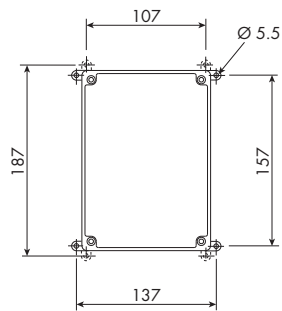

Figure 5.7: Dimensions and location of fixing holes - DX070
See figures 5.7 to 5.9 for the dimensions and mounting hole distances, etc., of the three DX enclosures. The recommended method of mounting—described here—uses the four wall-mounting lugs supplied with each enclosure. An alternative method of mounting is by direct attachment to the mounting surface through the corner holes.
- Each lug can be used in one of two positions as shown in figures 5.7 to 5.9.
- Appropriate fixing hole distances are shown in figures 5.7 to 5.9.